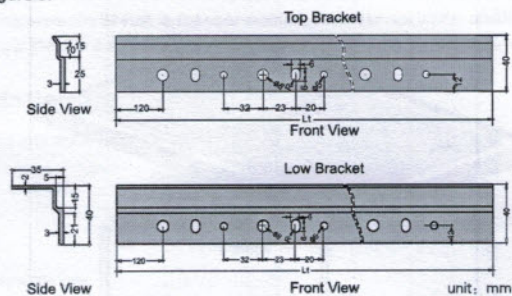

figure 8
1. Each screen has a set of bracket. Each bracket has a number of corresponding holes and 3 holes per group, Please refer to figure 8.